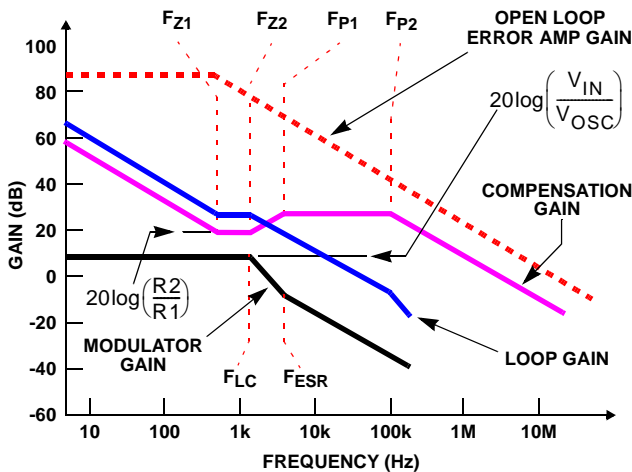

FIGURE 8. ASYMPTOTIC BODE PLOT OF CONVERTER GAIN
Figure 8 shows an asymptotic plot of the DC/DC converter's gain vs frequency. The actual Modulator Gain has a high gain peak due to the high Q factor of the output filter and is not shown in Figure 8. Using the above guidelines should give a Compensation Gain similar to the curve plotted. The open loop error amplifier gain bounds the compensation gain. Check the compensation gain at F_{P2} with the capabilities of the error amplifier. The Closed Loop Gain is constructed on the graph of Figure 8 by adding the Modulator Gain (in dB) to the Compensation Gain (in dB). This is equivalent to multiplying the modulator transfer function to the compensation transfer function and plotting the gain. The compensation gain uses external impedance networks Z_{FB} and Z_{IN} to provide a stable, high bandwidth (BW) overall loop. A stable control loop has a gain crossing with -20dB/decade slope and a phase margin greater than 45 degrees. Include worst-case component variations when determining phase margin.